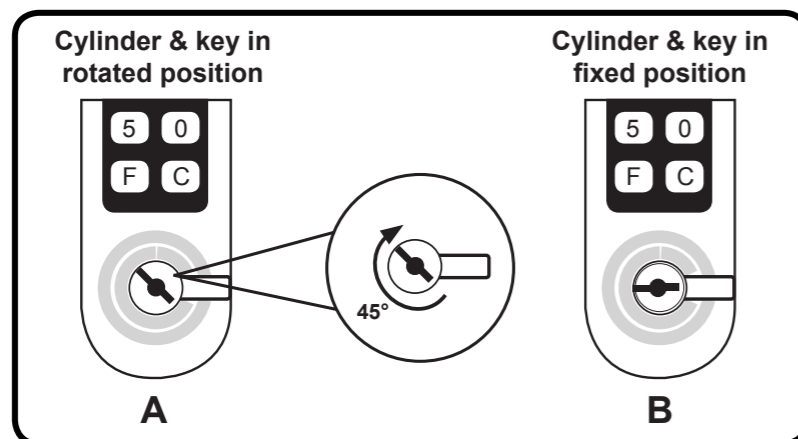

Fig.19
6. With the cylinder facing horizontally (Image A - Fig.19), put one of the correct keys into the new cylinder, rotate 45° clockwise and push into the handle holder. When in position the cylinder will drop into place and the key can be rotated back to the fixed position (Image B - Fig.19) and remove the keys and the cylinder should now be held into the handle holder.